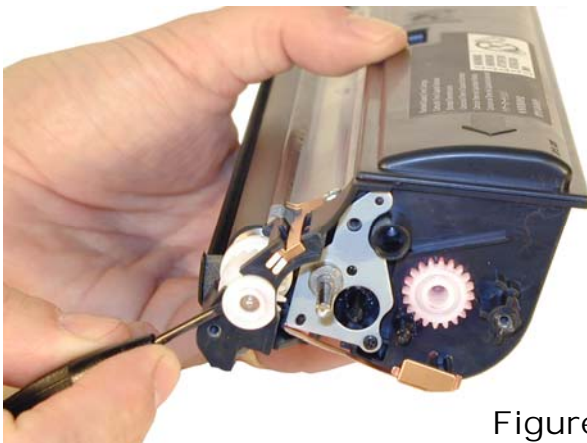

Figure 14
8) Remove the small white bushing from the gear side. See **Figure 14**